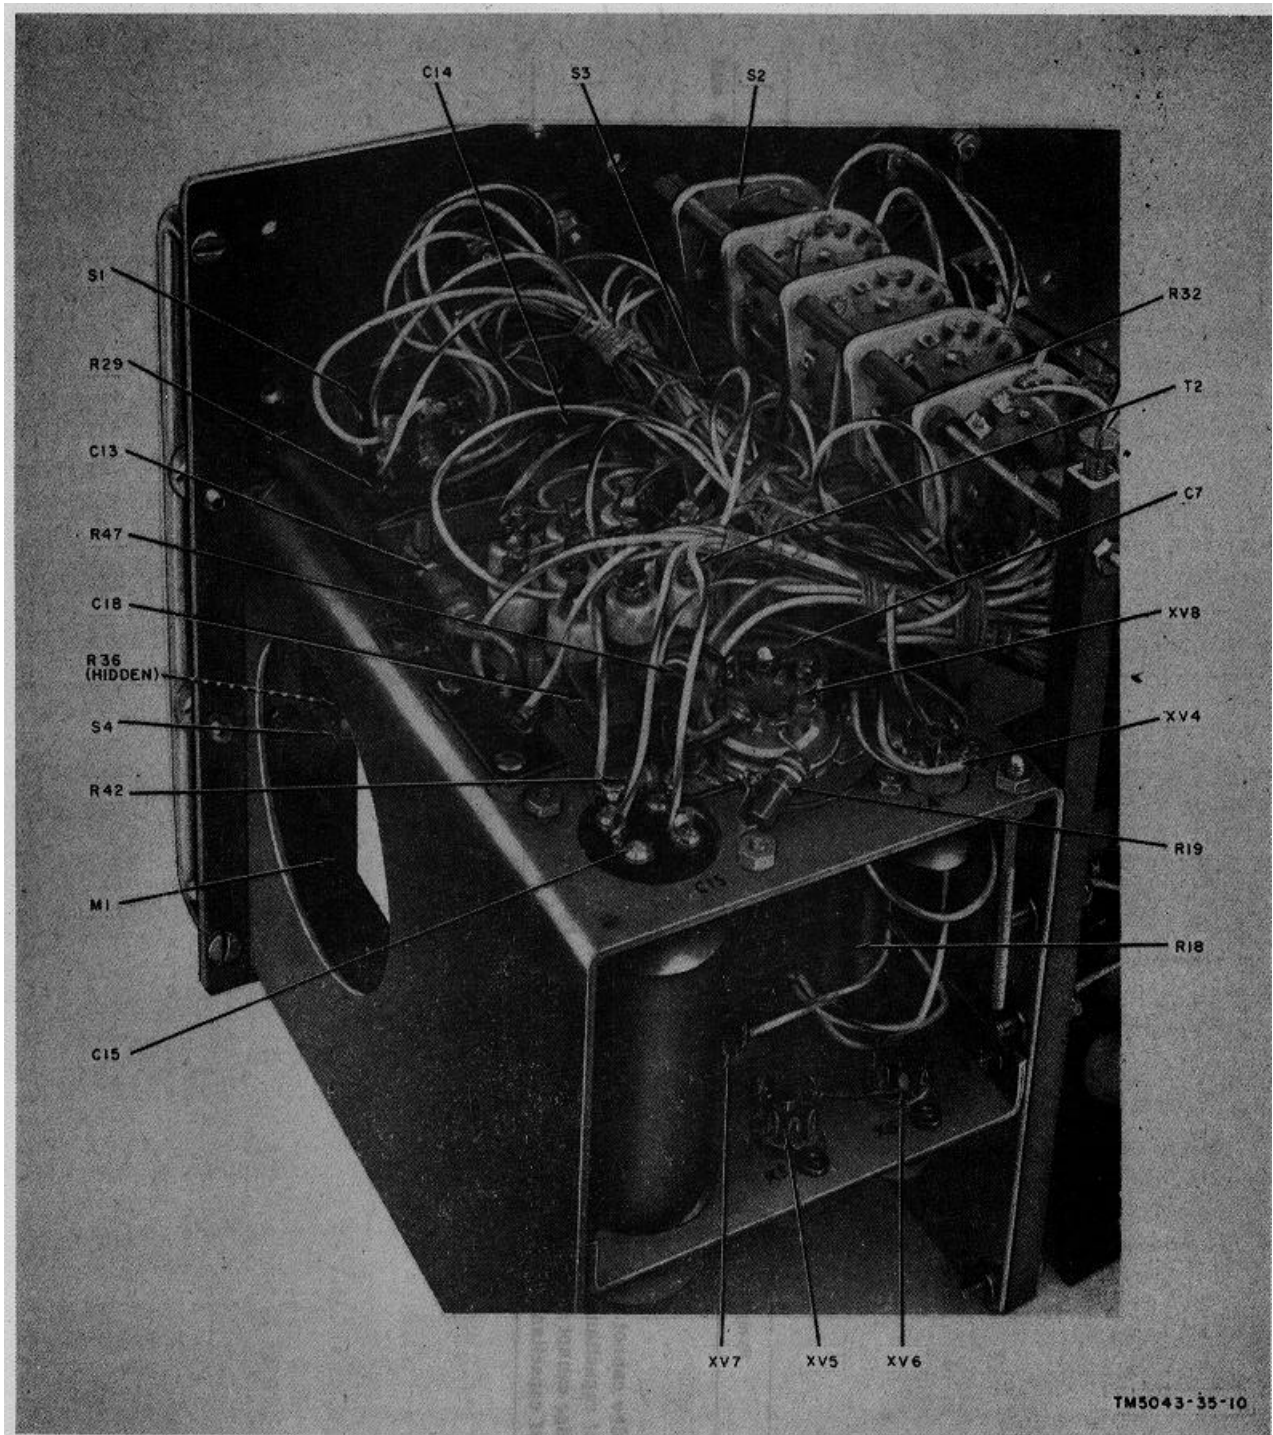

Figure 13. Low voltage power supply chassis and voltage regulator chassis, location of components.
a. General. In the troubleshooting chart (d below), procedures are outlined for localizing troubles in the analyzer. Parts locations are indicated in figures 13 through 17. Voltage and resistance measurements are shown in figure 18. Depending on the nature of the operational symptoms, one or more of the localizing procedures will be necessary. When trouble has been
Shorted capacitor C11, C15A, or C15B	Replace defective capacitor (fig. 13).
Defective switch S2C or S5.....	Replace defective switch (figs. 13 and 15).